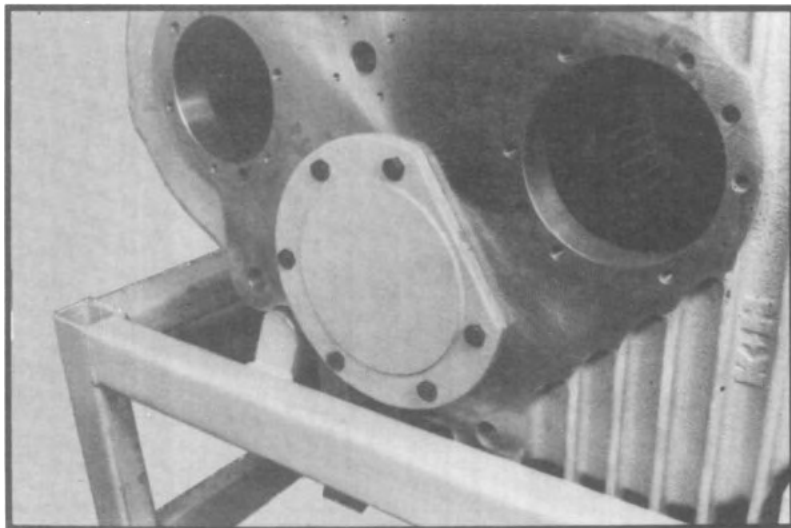

Fig. 86
8. Install front cover plate and gasket using the six capscrews. (See fig. 86.)